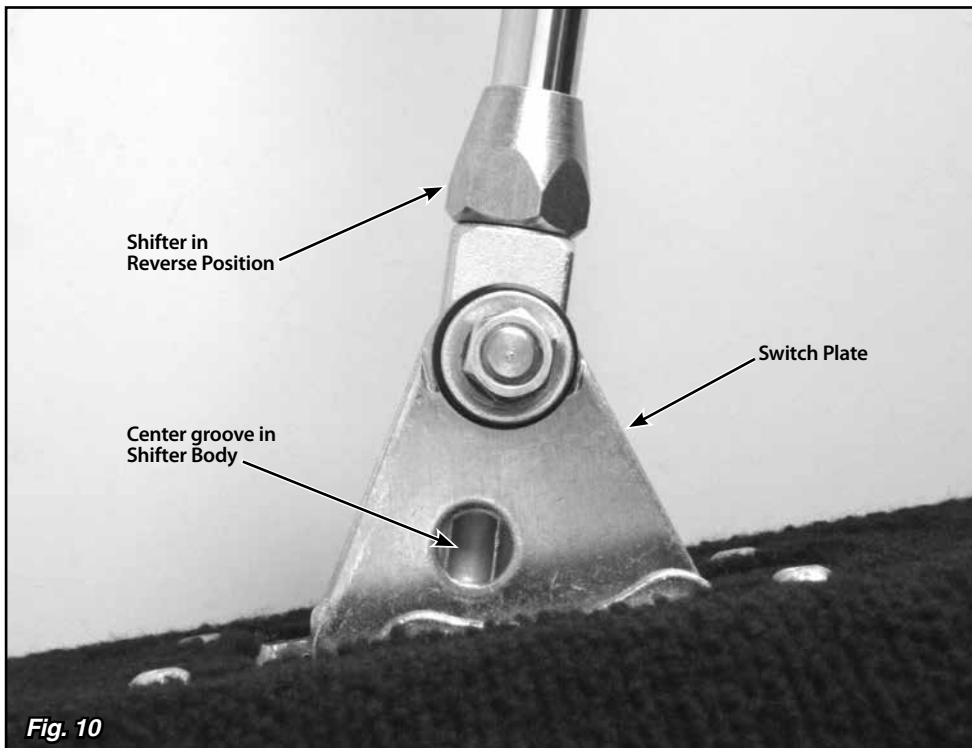

Fig. 10
Step 16: Put the shifter into the Reverse position. Reposition the switch plate so that the hole in the switch plate lines up with the center groove in the shifter body. **Fig. 10** Screw the provided aluminum adjuster plug into the neutral safety switch opening. Wiggling the switch plate slightly forward and back while you are screwing the aluminum adjuster plug in will help get the shifter body centered on the adjuster plug. **Fig. 11**